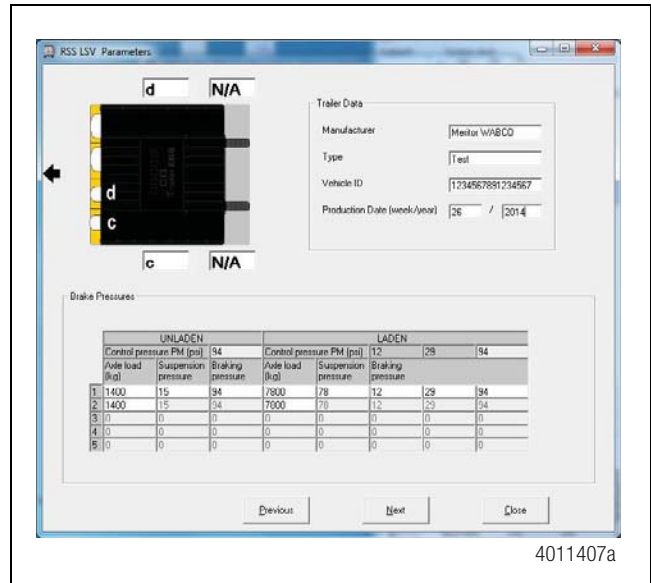

Figure 6
- From the parameter screen labeled *RSS LSV Parameters*, press the **Next** button located at the bottom of the window. There is no change in parameters at this screen. Figure 6.